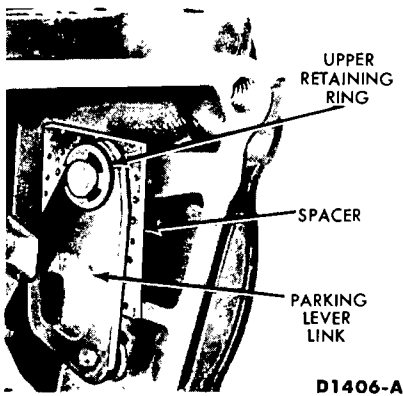

FIG. 62—Parking Pawl Link Installed
2. From the back of the transmission case, remove the upper retaining ring and flat washer from the parking pawl link (Fig. 62). Remove the pawl link from the case retaining pin.
flat washer and link retaining ring (Fig. 62).